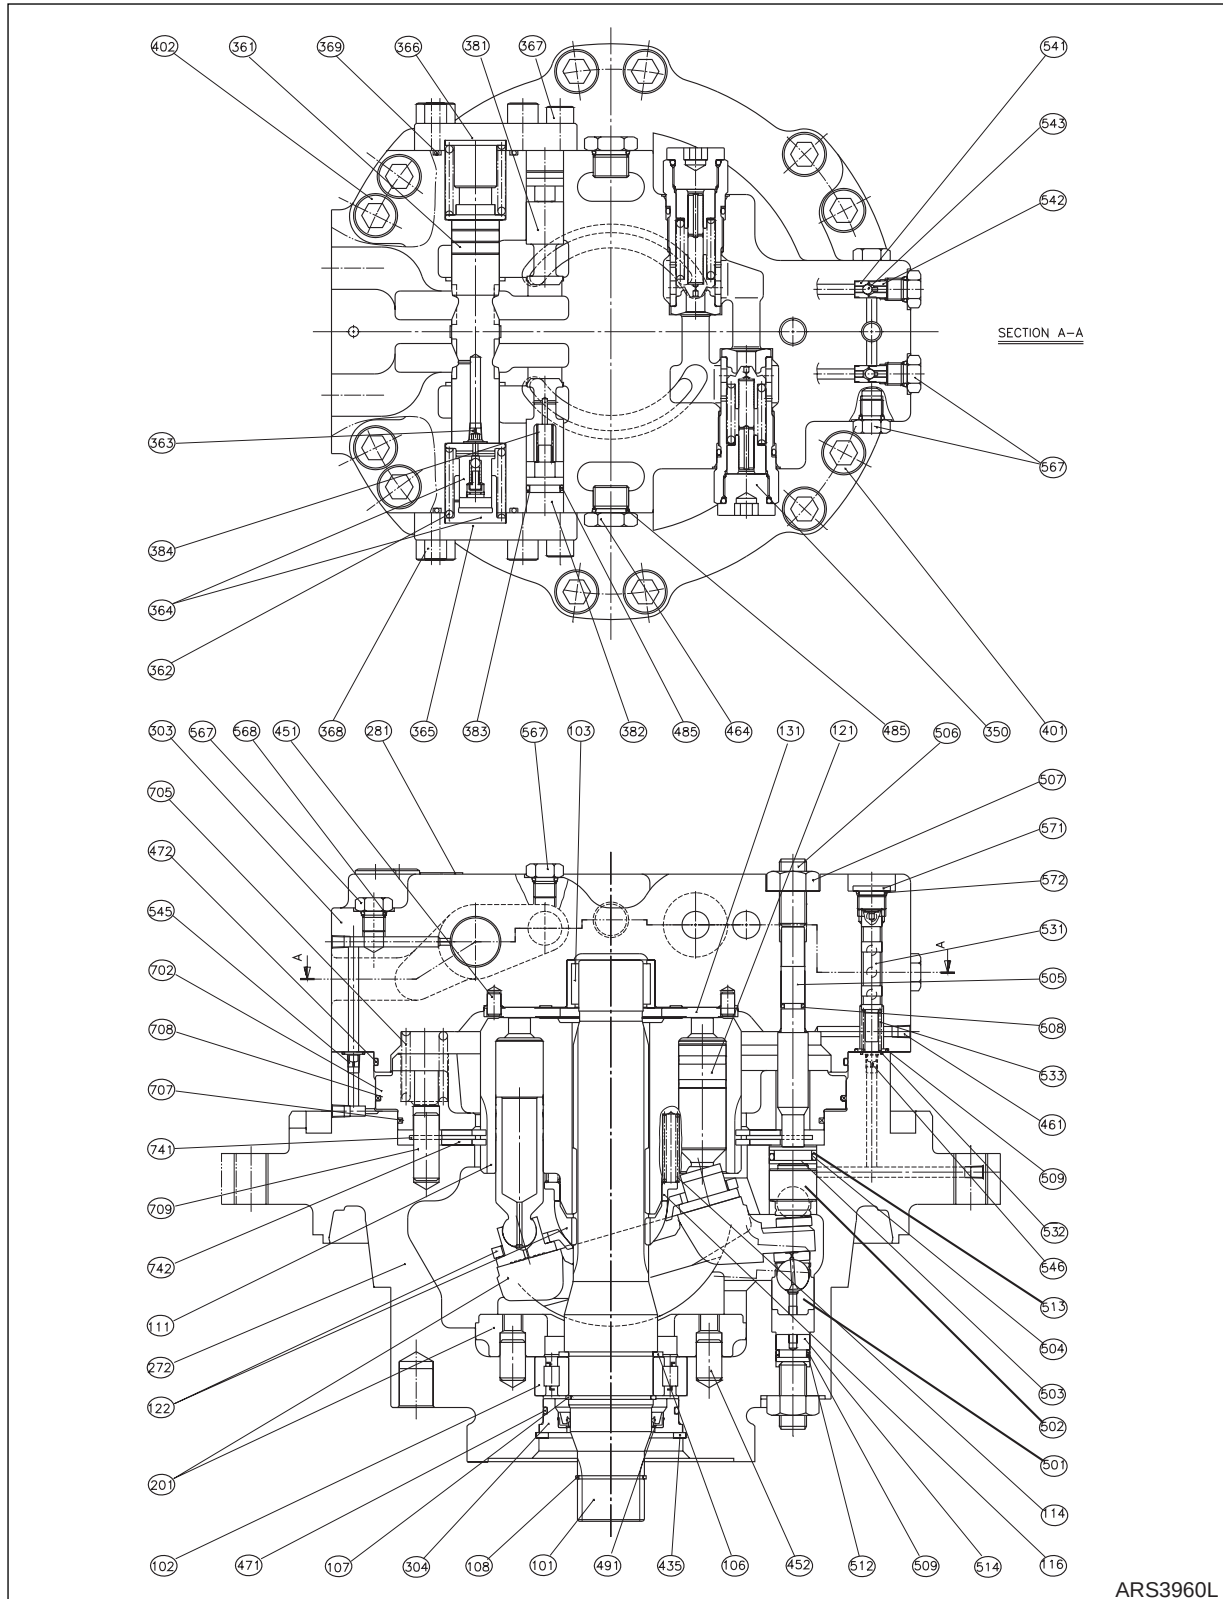

Figure 11
High pressure oil supplied from hydraulic pump flows through valve casing (14) and valve plate (11) into cylinder block (06). (Refer to Figure 11 for indicating number).